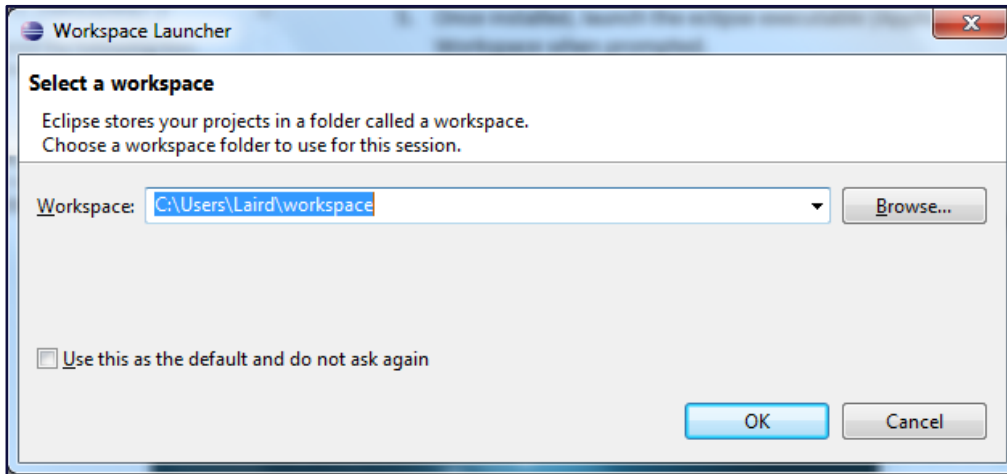

Figure 6: Eclipse default workspace
- Once moved, launch the Eclipse executable (Application). Use the default Workspace when prompted (Figure 6).